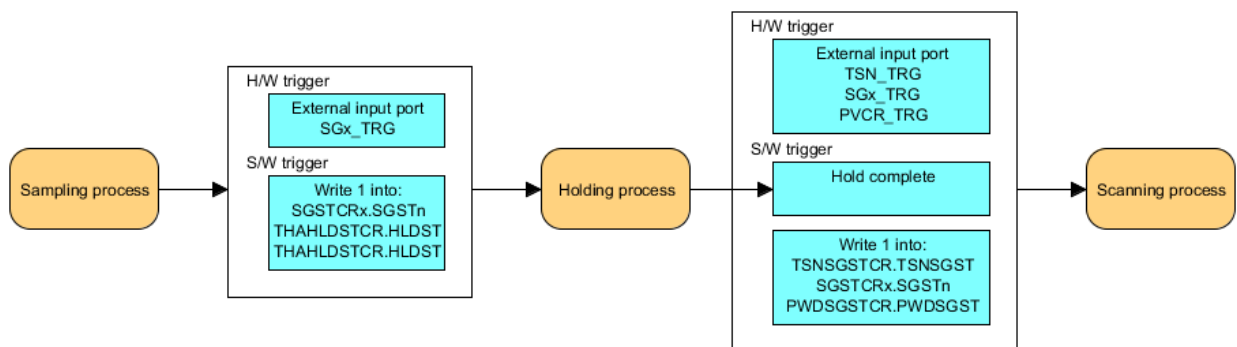

**Figure 6.3: Software Trigger behavior of Scanning group n (n=0~4)**
- (1) Refer to HWM[2] chapter: 1.16.1.2, 1.16.15.
- (2) The Figure 6.3 shows the behavior of SW trigger. When SW trigger of is asserted by writing to register, after 1 PCLK period and 2 ADCLK (from next rising edge of ADCLK), the corresponding ADCATCNVn (n=0~4) is asserted and the scanning process is started.